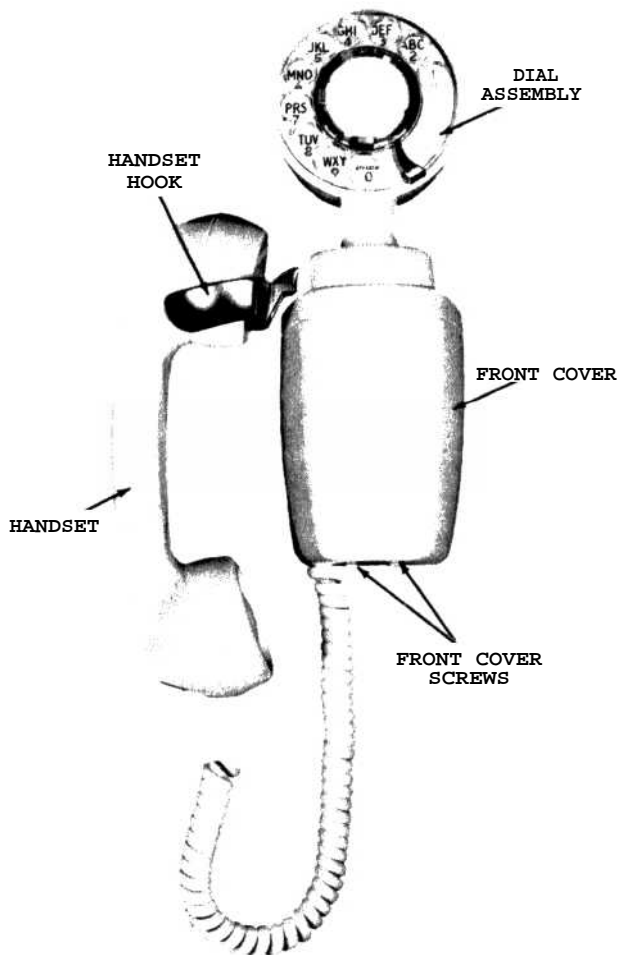

Figure 1. Type 183 Telephone.
1.01 This section provides installation and field maintenance procedures for the Type 183 telephone (Figure 1).